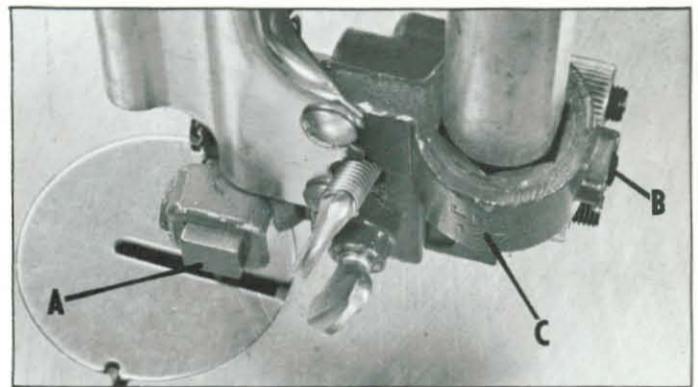

Fig. 19
The upper blade guide assembly should also be adjusted so that the blade guides (A) Fig. 19, are flat with the blade. If an adjustment is necessary, loosen screw (B) and rotate the complete guide assembly (C) until the blade guides are flat with the blade.